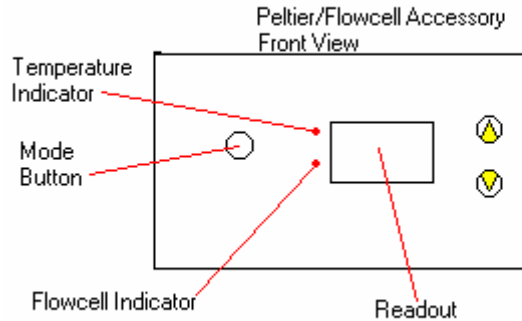

Figure-24 Peltier/Flowcell Accessory Front View
- Step 15 Turn on the spectrophotometer (if power is off) and Peltier/Flowcell Accessory. Select the temperature (25, 30, or 37°C) on the Controller. To do this, push the **Mode** button on the Controller so the temperature light is illuminated. Select the temperature using the “up” and “down” buttons (Figure-24).